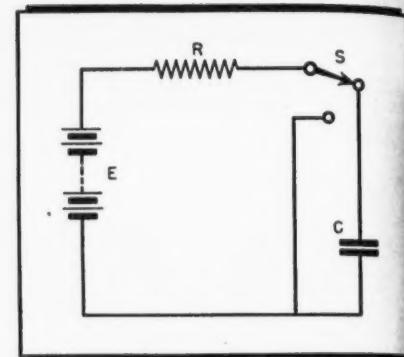

Figure 3
a. The simple time base is illustrated in Fig. 3. The voltage source E charges the condenser through resistance R in accordance with the formula $V_c = E(1 - e^{-t/CR})$, where V_c is the voltage across the condenser at any